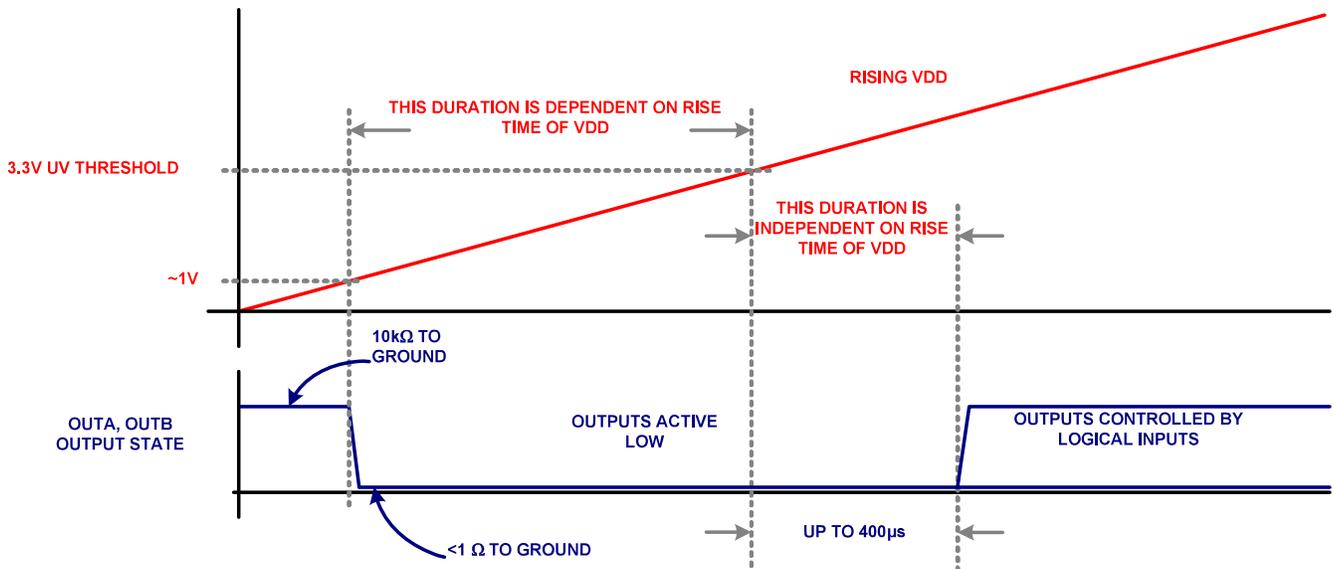

FIGURE 9. START-UP SEQUENCE
- A 400 μs delay further inhibits the release of the output state when the UV positive going threshold is crossed. See Figure 9
ground, help to keep the gate voltage close to ground. When $-1V < V_{DD} < UV$, both outputs are driven low while ignoring the logic inputs. This low state has the same current sinking capacity as during normal operation. This insures that the driven FETs are held off even if there is a switching voltage on the drains that can inject charge into the gates via the Miller capacitance. When $V_{DD} > UVLO$, and after a 400 μs delay, the outputs now respond to the logic inputs. See Figure 9 for complete details.